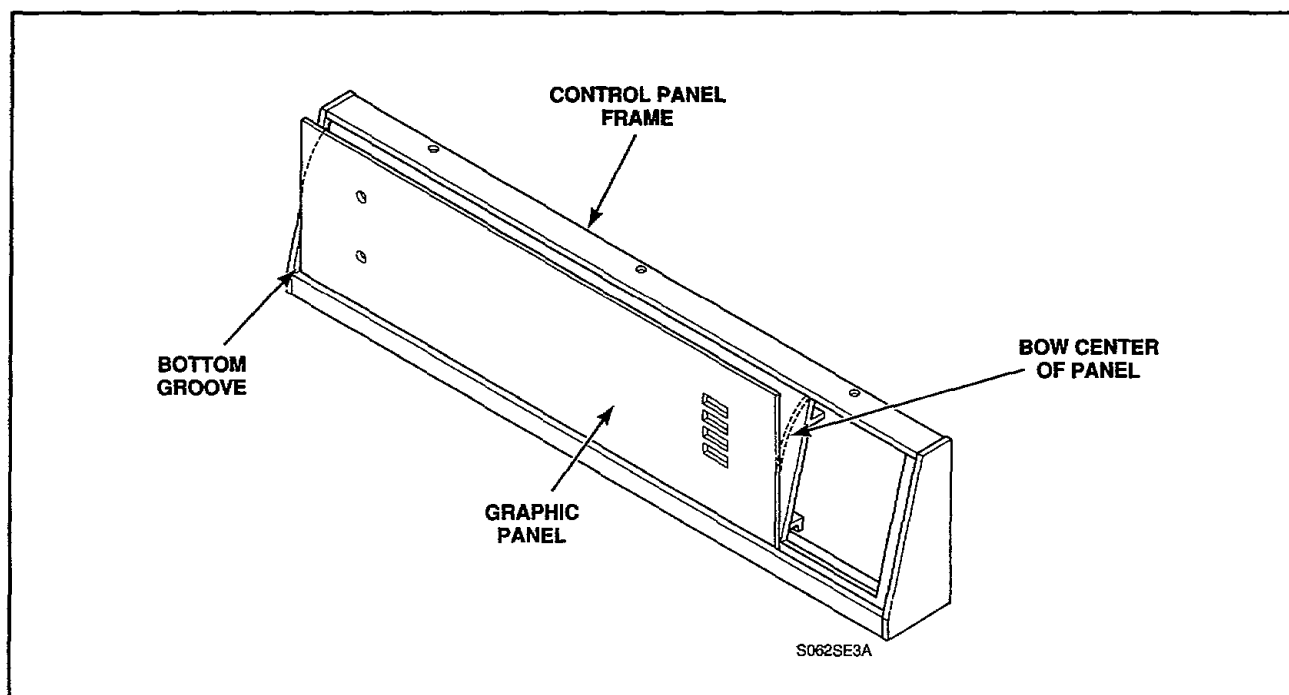

Figure 7
- f. Set control panel frame upward, place the bottom edge of the panel overlay into the bottom groove of the panel frame, *Figure 7*. Butt the left end of the overlay against the left end frame of the panel frame.